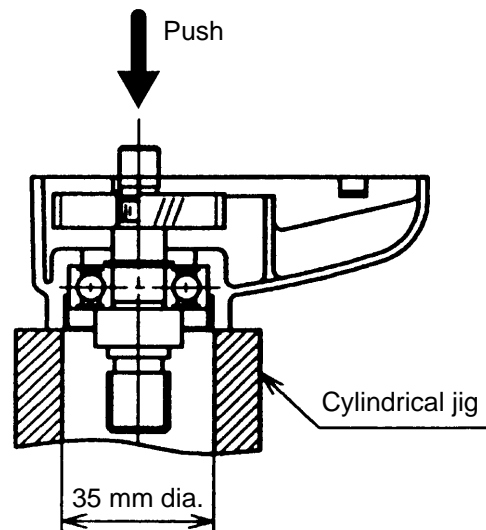

Fig. 3
- (1) Loosen the four Tapping Screws D5 x 45 [7] <7>, and remove the Gear Cover [8] <8>, together with the Spindle [4] <4>, the First Gear [9] <9>, and the related parts as a single unit.
- (2) Remove the Bearing Caps [3] <3> with the J-21 wrench.
- (3) As illustrated in Fig. 3, support the tip of the Gear Cover [8] <8> with a cylindrical jig of inside diameter 35 mm or more, and push the rear portion of the Spindle [4] <4>.